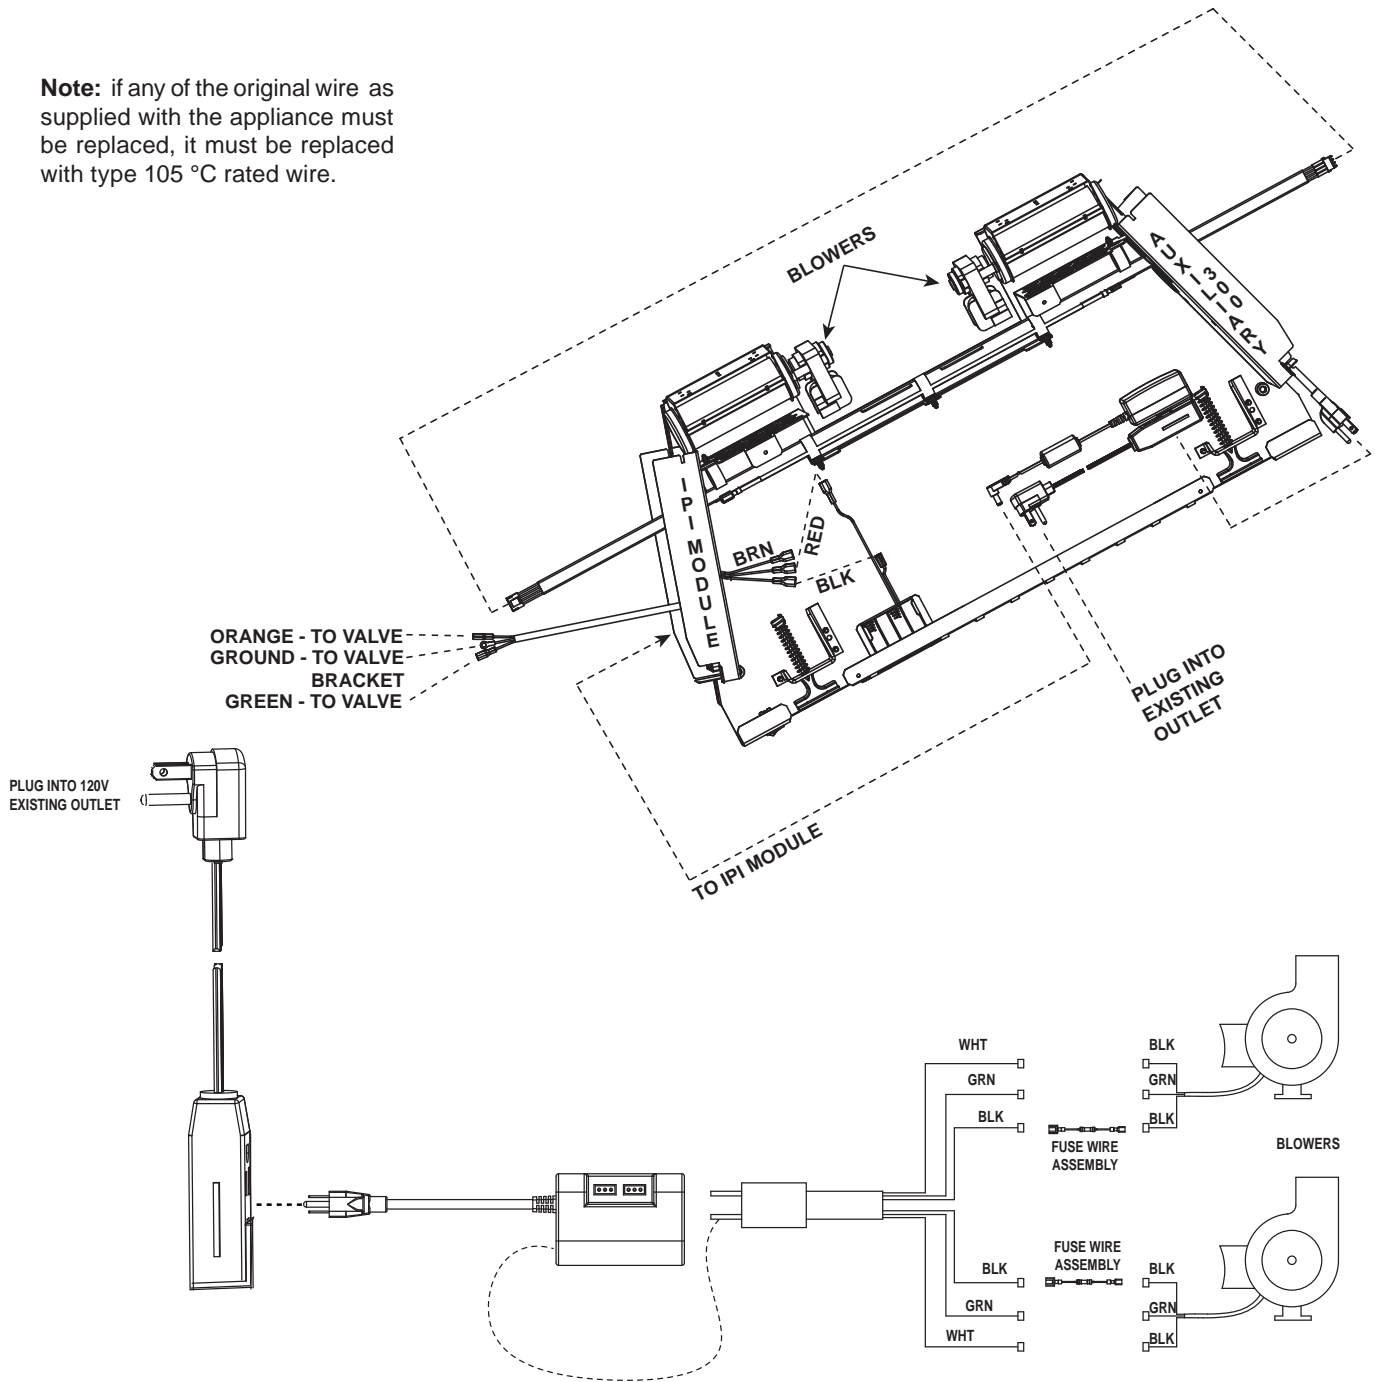

Figure 10.3 Fan Wiring Diagram
NOTE: SEE FIGURE 10.3 FOR ADDITIONAL INFORMATION
5. Connect black, white, and green wires from blower wire assembly to each blower. See Figure 10.3.
6. Insert plug from blower cable assembly into AUX300 receptacle. See Figure 10.3.
8. Position the right and left blower assembly into the rear opening. Take care to ensure that blower housing or its motor is clear of any adjacent metal. This will ensure that no undue noise occurs during blower operation. See Figure 10.3.